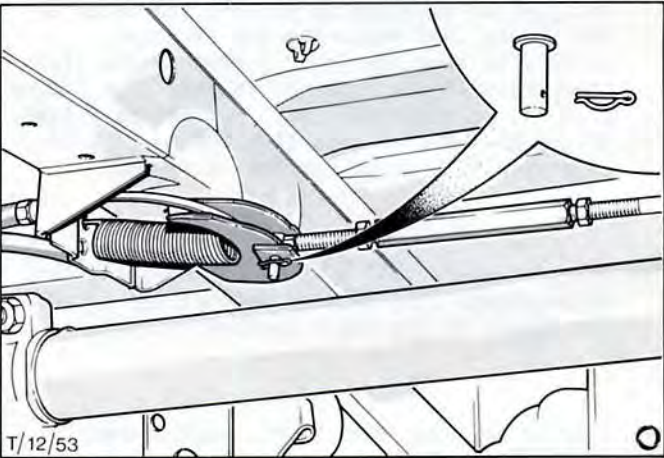

Fig.67. Remove spring clip and clevis pin from equaliser.
3. Remove spring clip and clevis pin securing primary rod to handbrake cable equaliser, remove primary rod, Fig.67.